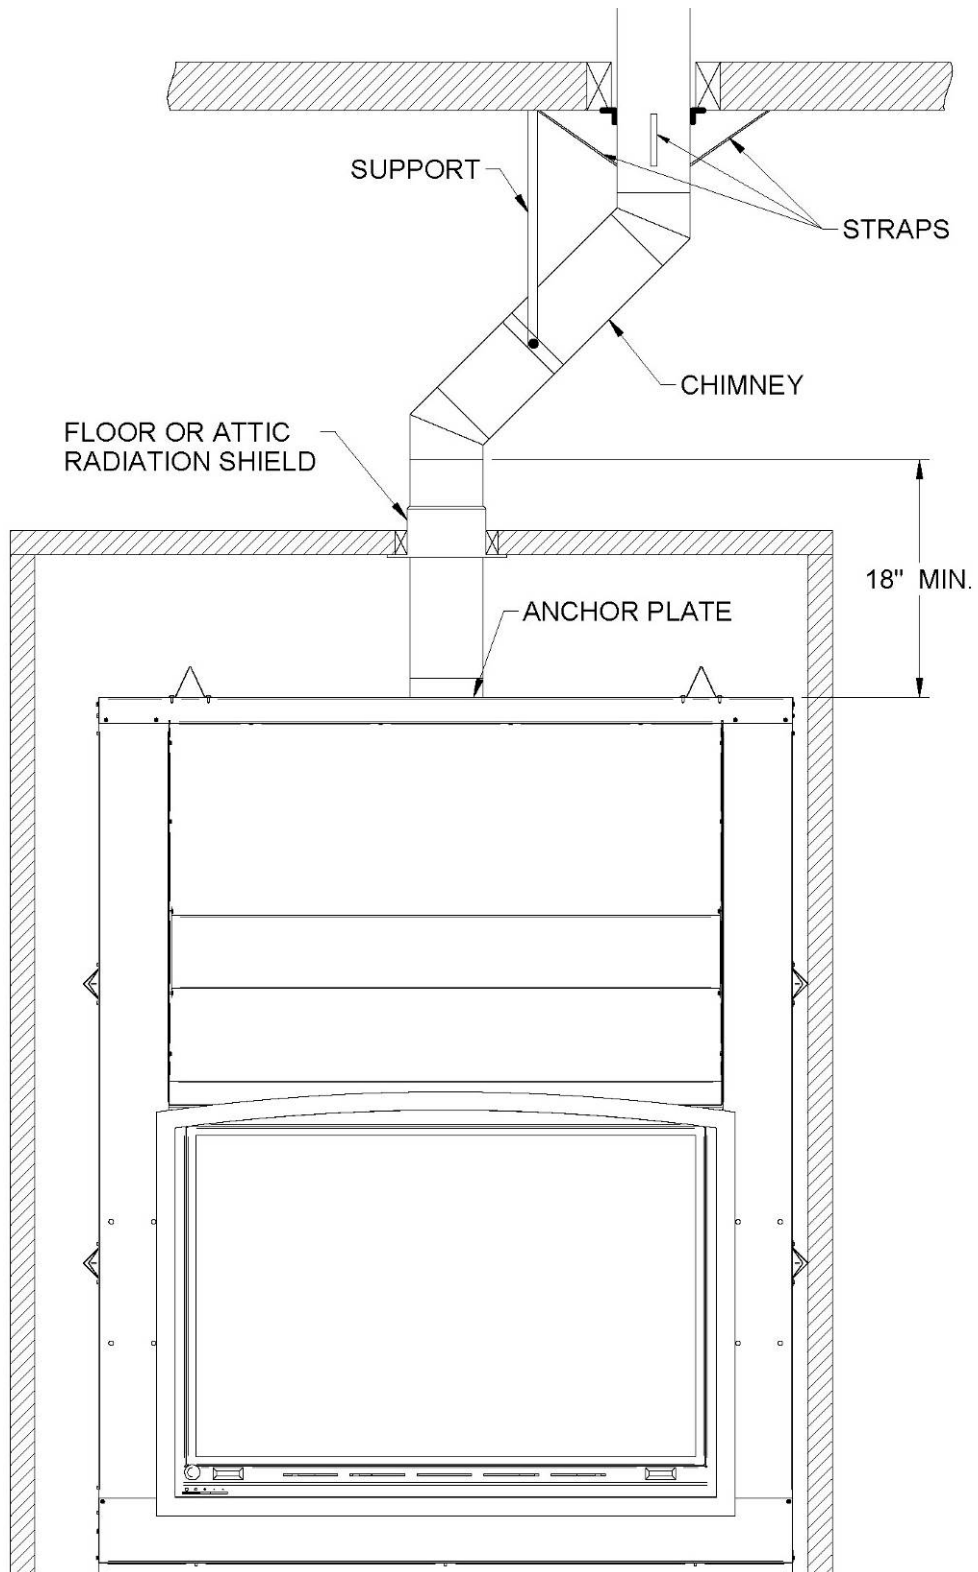

Figure 31
1. There must be a minimum vertical length of 18" starting from the fireplace before putting an deviation/elbow. Install the first elbow; turn it in the required direction. Secure it to the chimney according to the chimney manufacturer's instructions. In many cases, it is recommended to secure connections with three (3) ½" (12 mm) metal screws.
2. Install the necessary chimney lengths to achieve the required offset. Lock the chimney lengths together according to the chimney manufacturer's instructions. In many cases, it is recommended to use three (3) ½" (12 mm) metal screws. If the offset length is made of two (2) chimney lengths or more, many chimney manufacturers may require that you use an offset or roof support halfway up the offset. If penetrating a wall, install a wall radiation shield supplied by the chimney manufacturer (see **Figures 31 and 32**).